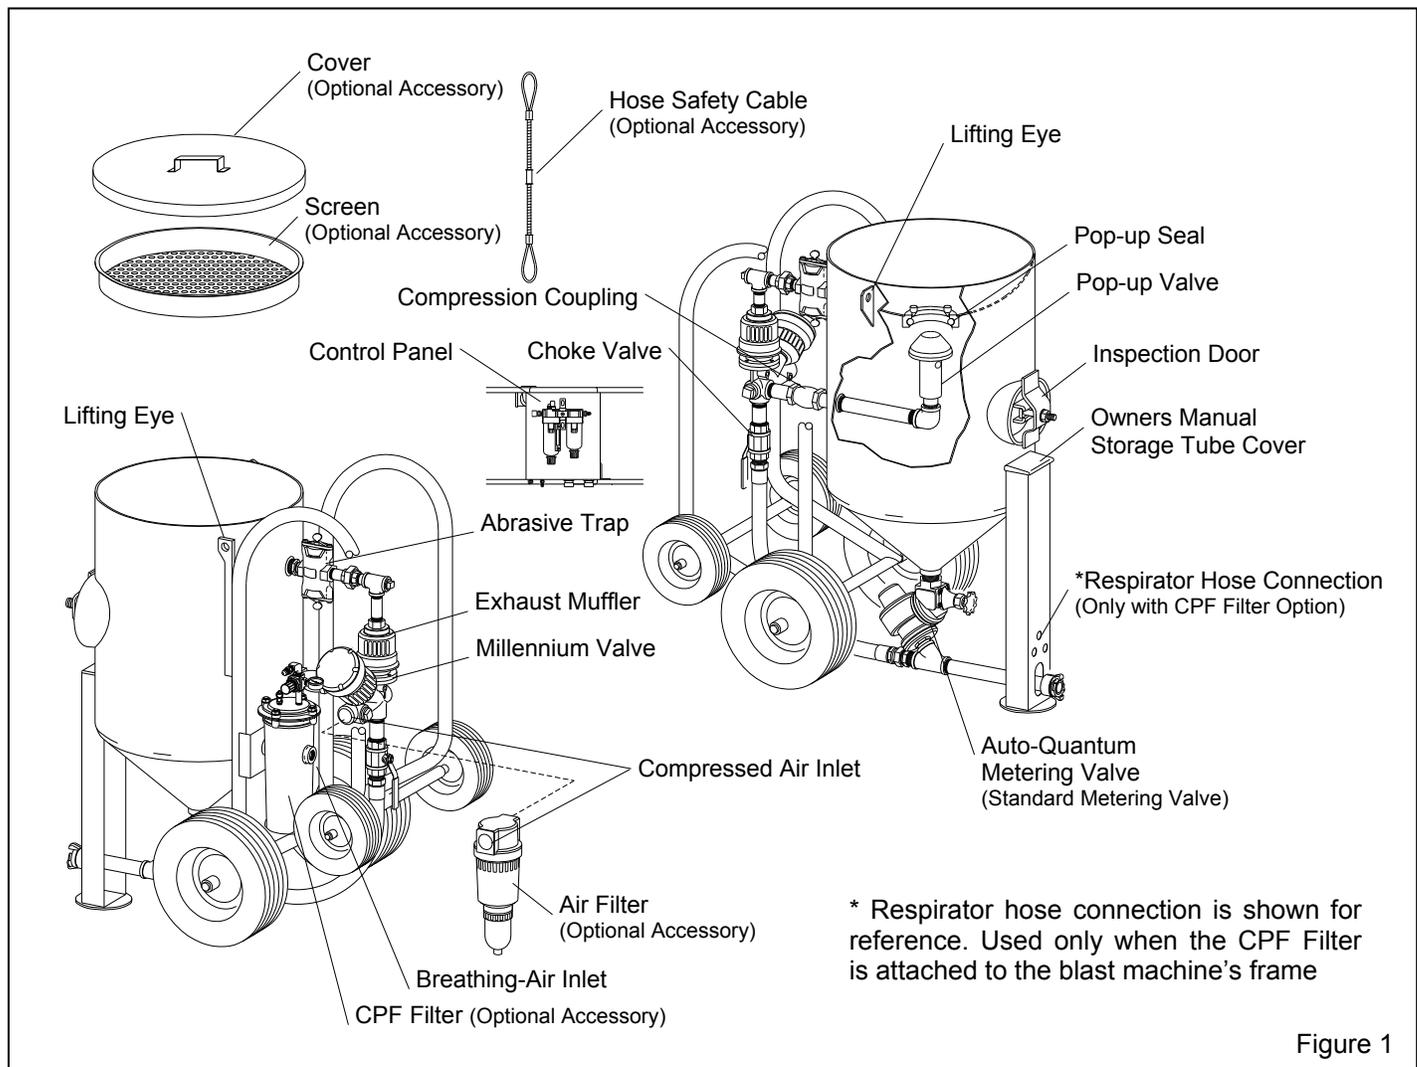

Figure 1
1.3.1.1 The primary components of the Contractor machines are shown in Figure 1. They include the blast machine with Millennium remote controls, electric control panel, with abrasive cut-off switch (ACS), Auto-Quantum abrasive metering valve, frame assembly, optional air filter, and optional air filters.
2.5.4 For models with CPF filter attached, connect the 5-ft. respirator lead hose to the fitting at the top of the CPF filter and compatible respirator fitting on the front leg of the blast machine. Refer to Figure 1 for the location of the respirator hose fitting on the leg.